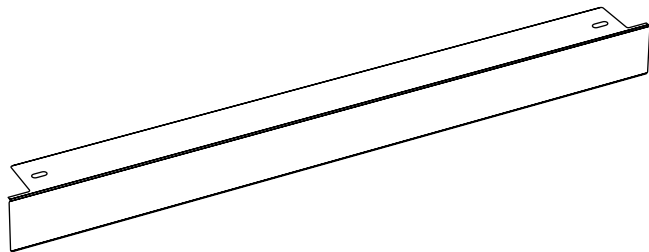

Figure 6
The trim kit (Fig. 6) can be installed with or without the shims.
2. Install trim kit (Fig. 6 included with oven) connecting both shims on the front of the cabinet